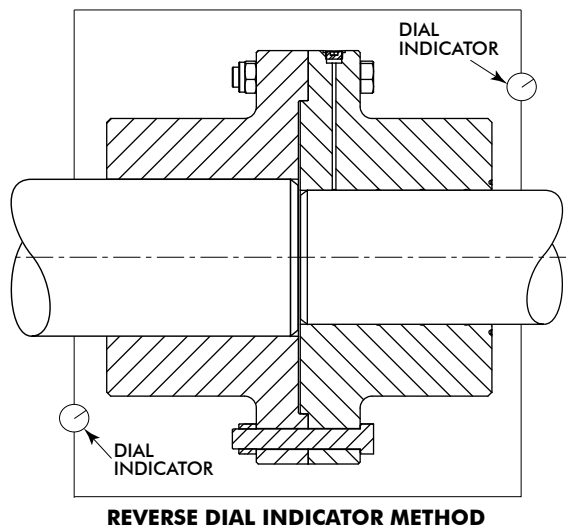

FIGURE 5
- 10. Using dial indicators per Figure 5, measure assembly runout on driving and driven shafts. Runout values should be within 0.005" (0.127mm) TIR (total indicator reading) to minimize drive movement. See Table 1.